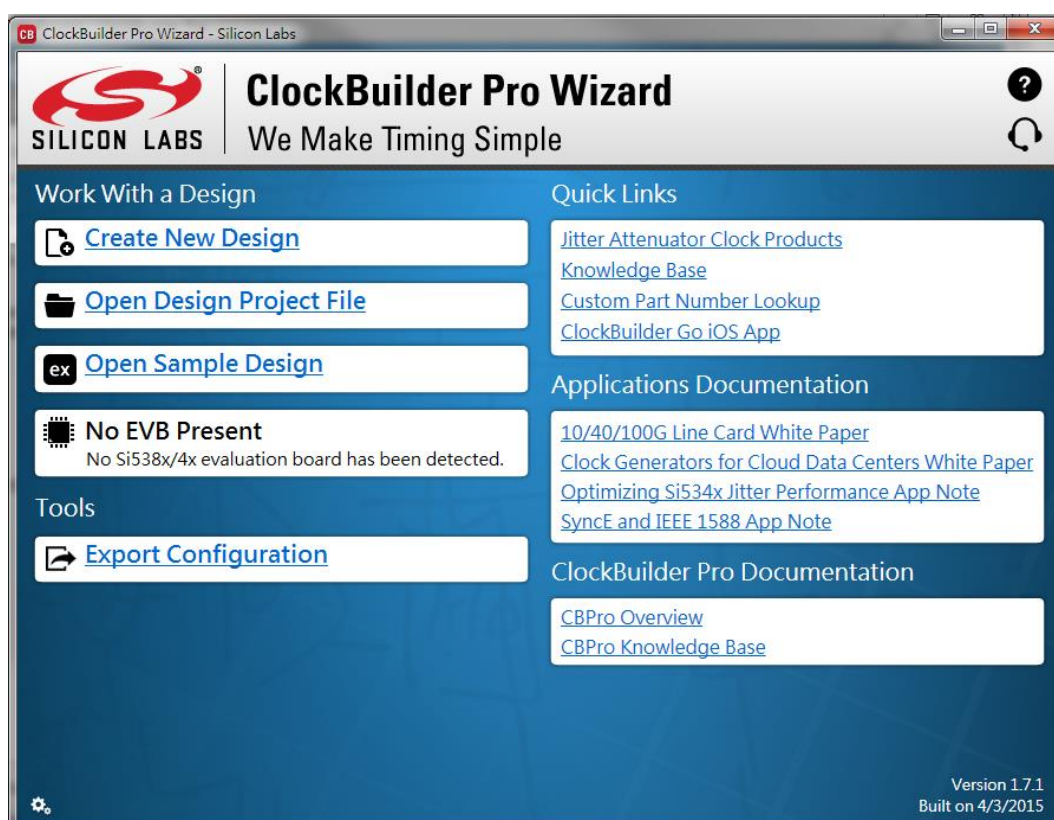

Figure 5-5 ClockBuilder Pro Wizard
1. Firstly, download ClockBuilder Pro Software (See **Figure 5-5**), which is provided by Silicon Labs. This tool can help users to set the Si5340's output frequency of each channel through the GUI interface, and it will automatically calculate the Register parameters required for each frequency. The tool download link: